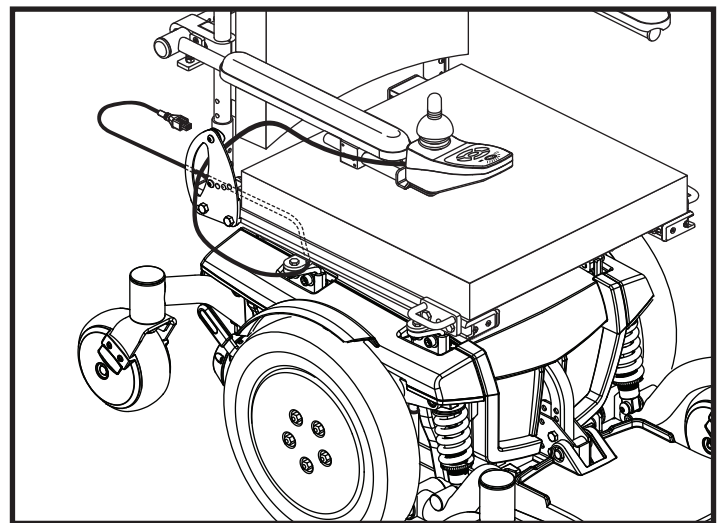

Figure 9. Controller Harness Routing on a Synergy Seat
4. Install the controller and route the harness to the back of the power base. See figures 9 or 11.
2. Install the controller and route the harness to the back of the power chair. See figures 9 or 11.
6. Route the controller harness so that it cannot be pinched in the seat hinges. See figure 9 or 11.